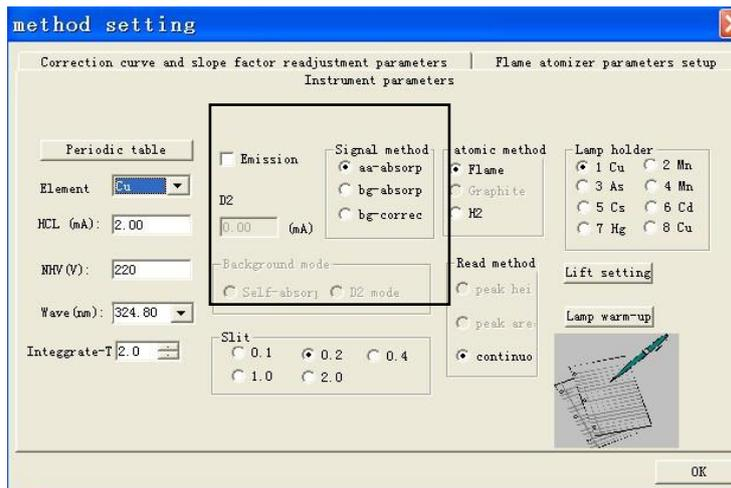

Figure 4-19
- After "Atomic absorption" is selected as shown in Figure 4-19, the field for deuterium lamp current is gray. The fields for background mode are also grey, and the radio boxes for emission are selectable (Selection of these boxes are optional).